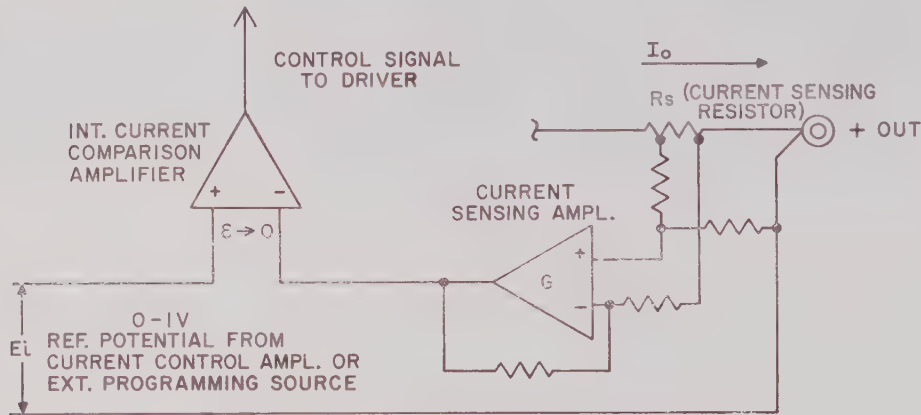

FIG. 4-3 CURRENT COMPARISON EQUIVALENT CIRCUIT
- 4-6 In the current mode of operation, the CURRENT-COMPARISON AMPL. senses any change in the output current by comparing an amplified sensing voltage to a reference potential, developed by the CURRENT-CONTROL AMPL. (See FIG. 4-3).